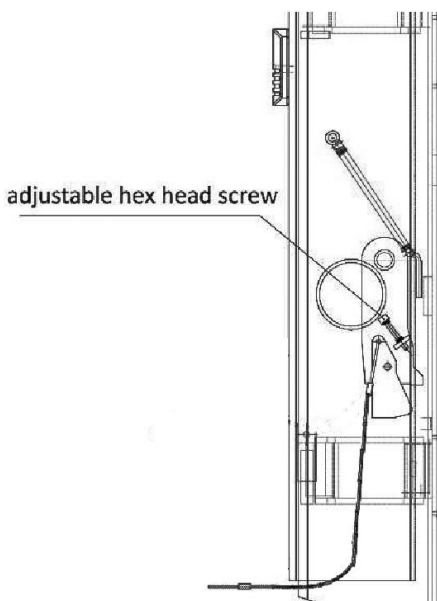

Fig 12
2. Check if mechanical locks can be well engaged or released in the running process. Adjust by screwing the hex head screw as showed in the following drawing in case the locks do not work well. (Screw clockwise in case the lock can not release and screw counterclockwise in case the lock can't be engaged.) (Fig 12)